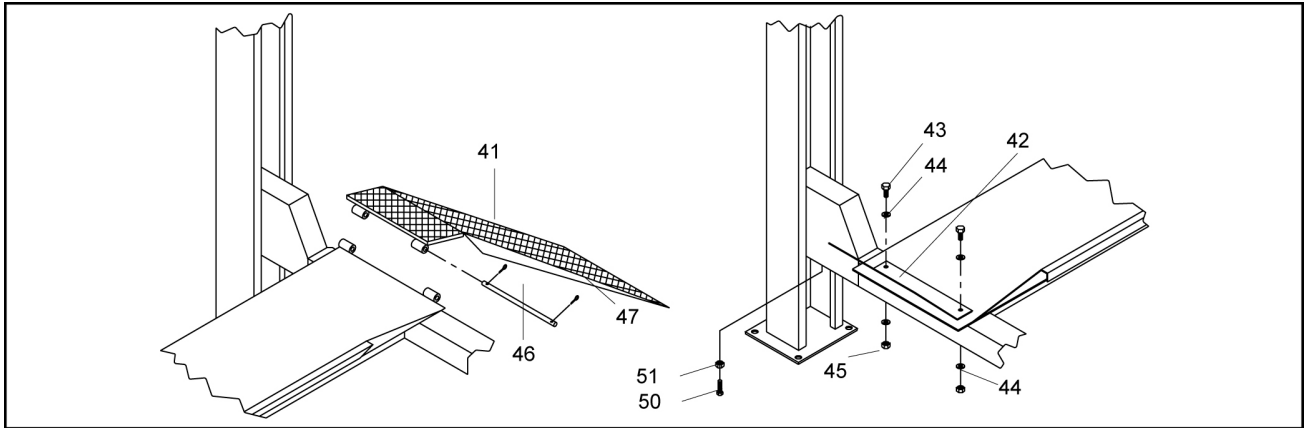

Fig.59 Securing the vehicle ramps and wheel stops
The vehicle ramps (pos.41, fig.59) and the wheel stops (42) can be fitted on either end of platforms (7 - 8) according to the user's requirements.